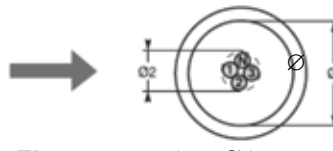

Fig. 5
4. As a rule, select a toroid that has an inside diameter which is twice that or greater than the outsider diameter of the cable(s) to be passed through (see Fig. 5)